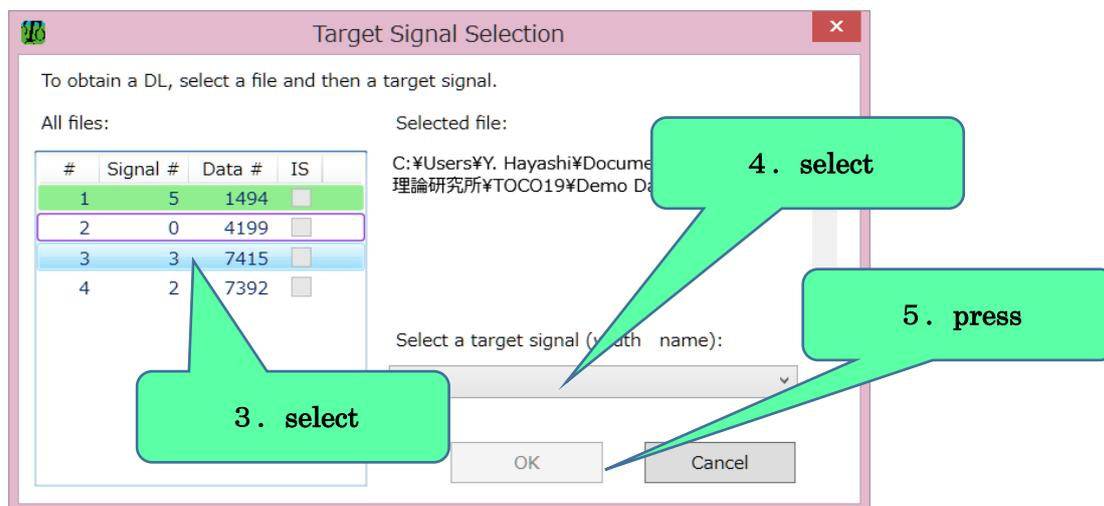

Figure 7 --- Target Signal Selection dialog box
2. press the Detection Limit (DL) button in the main window;
3. select a file (Signal # > 0) from the view of the Target Signal Selection window (see Fig. 7);
- The light green background (Fig. 7) indicates a file displayed in the main window;
- The purple border (Fig. 7) denotes a file without peaks (Signal # = 0);